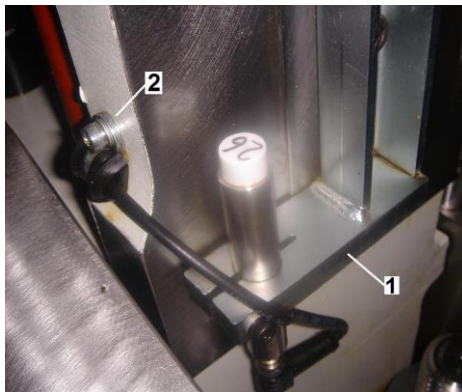

Fig. 48: Cables through fastening clamp
1. Lead the cables from the sensor bracket (Fig. 48/1) through the fastening clamp (Fig. 48/2) on the bed plate (if necessary).